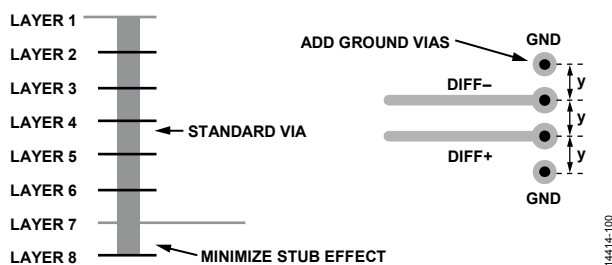

Figure 124. Minimizing Stub Effect and Adding Ground Vias for Differential Stripline Traces
- If using standard vias, use the maximum via length to minimize the stub size. For example, on an 8-layer board, use Layer 7 for the stripline pair (see Figure 124).
- For each via pair, place a pair of ground vias adjacent to them to minimize the impedance discontinuity (see Figure 124).